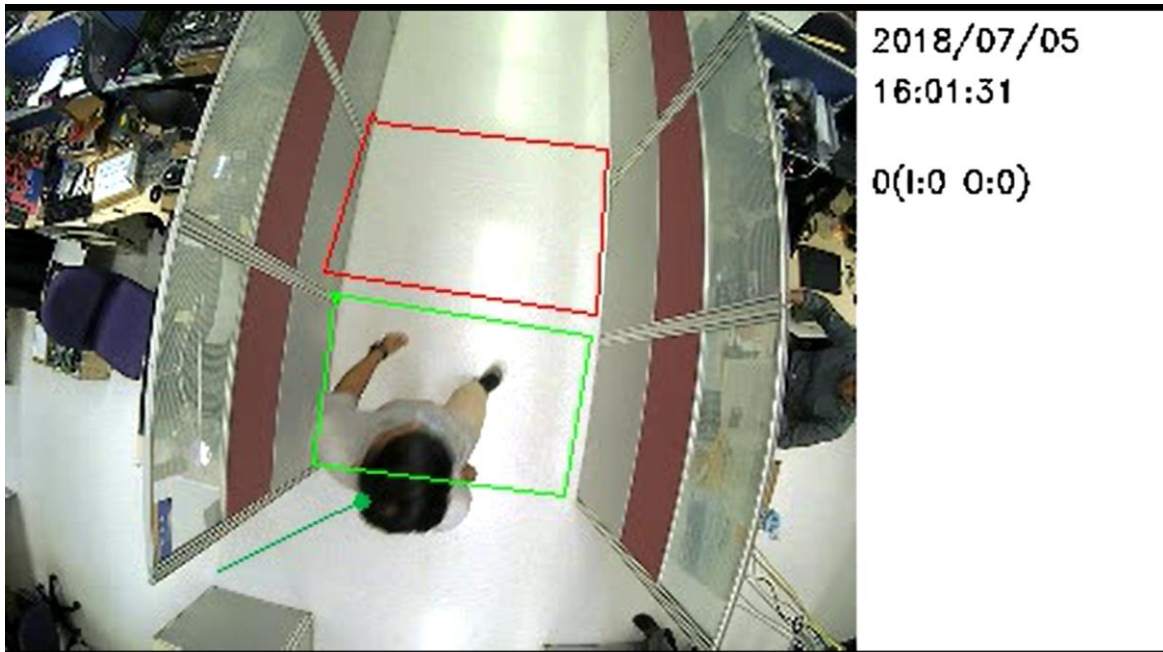

Figure-33, The object enters in the counting area
(2) The object enters in the green area/exit area (Figure-33).